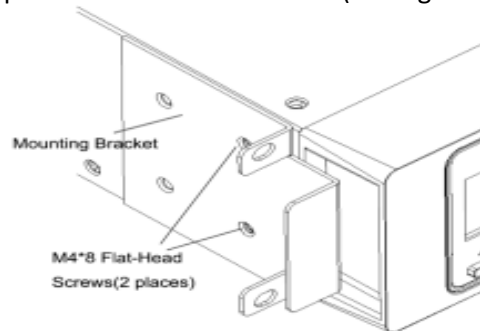

Figure3.2 Installing the Mounting Brackets
- d. Align the mounting brackets with the screw holes on each side of the UPS and fix with the supplied M4x8 flat-head screws(see Figure 3.2)